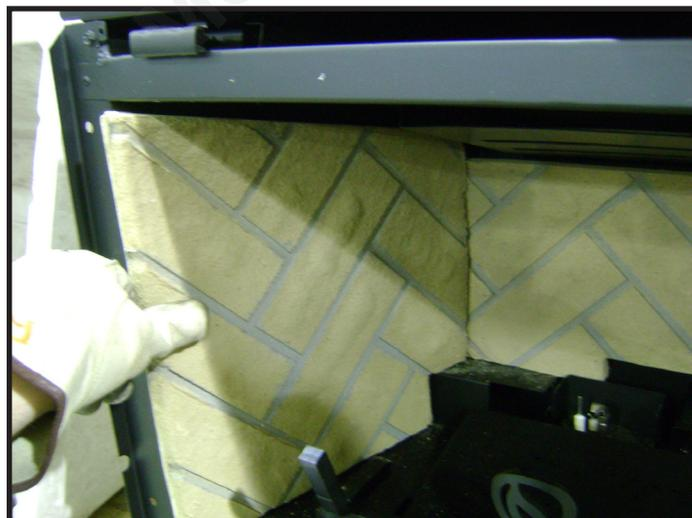
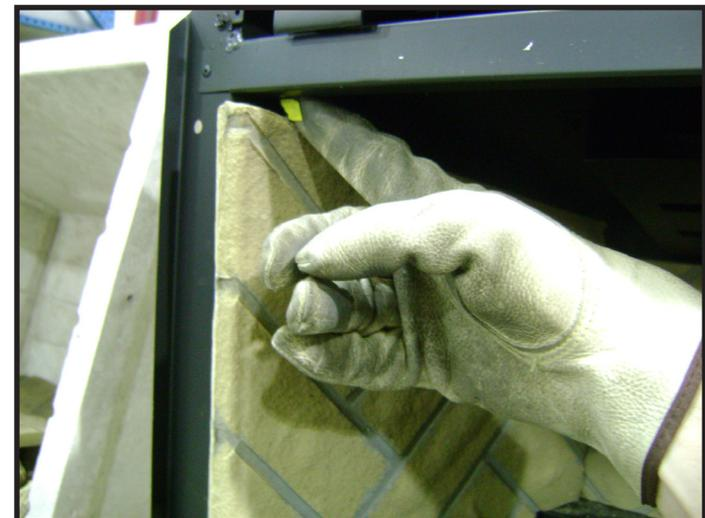

Figure 4. Install Side Refractory
Figure 5. Bend Refractory Tab
**CAUTION: Logs are fragile, handle with care.** Install back refractory by placing it against the back of the firebox. See Figure 3. The back refractory must be held in the upright position until the side refractory is installed. Install the left side refractory as shown in Figure 4. Bend the refractory tab down as shown in Figure 5. Repeat this step for the right refractory panel.